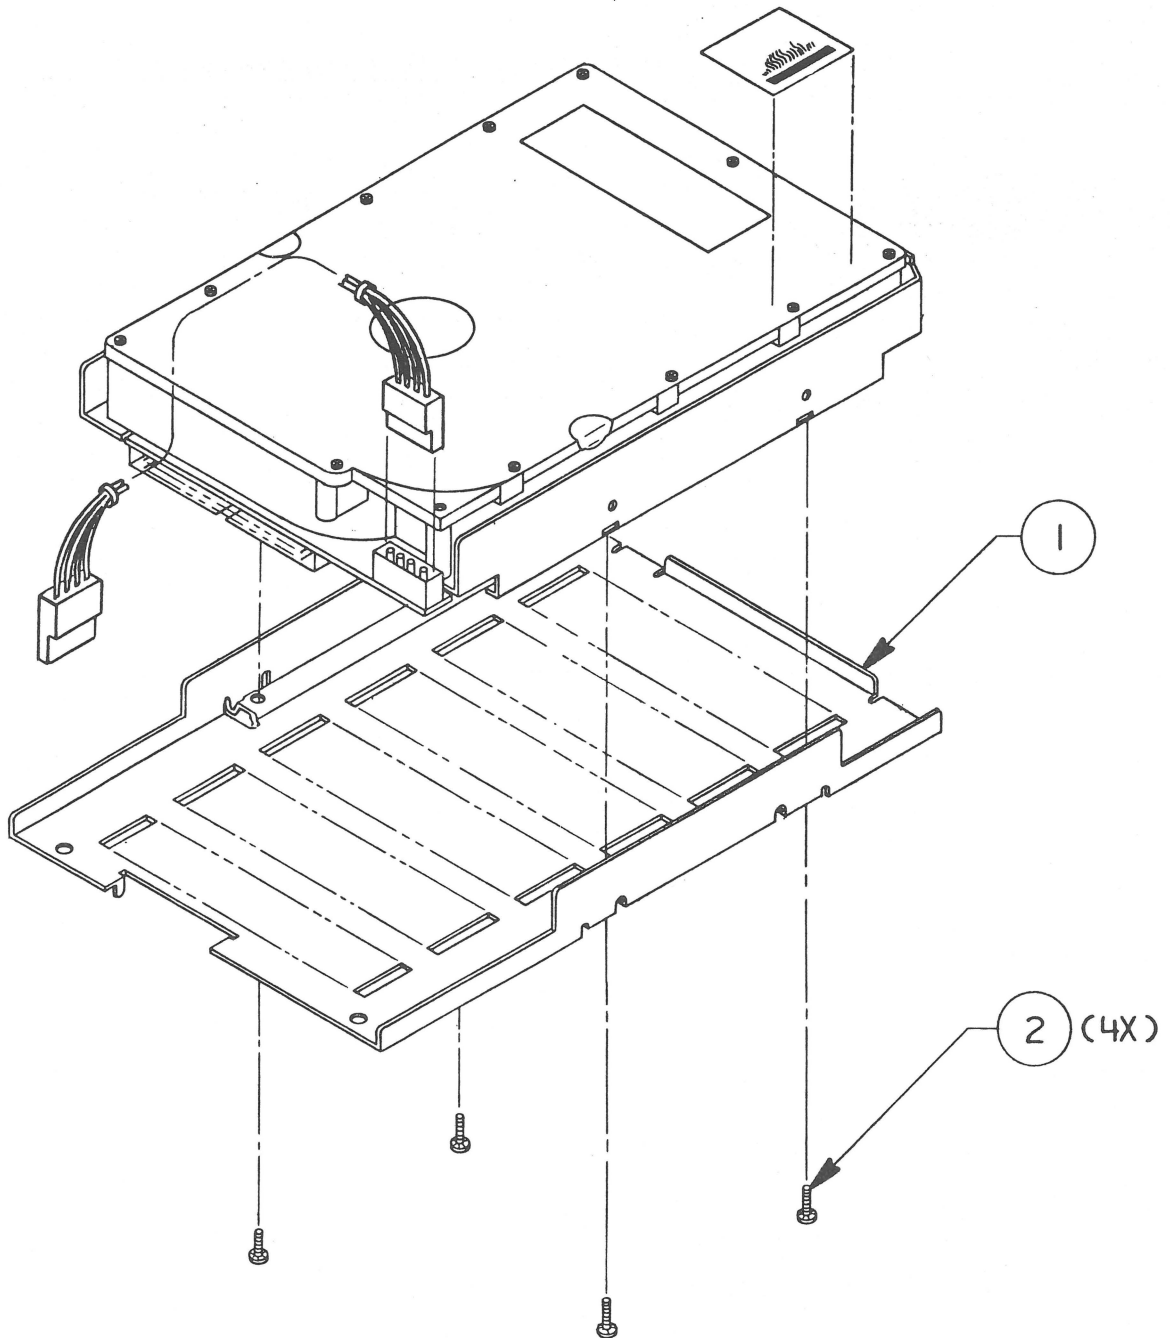

FIGURE 3
(Figure 3)
□ HARD DISK ASSEMBLY (HDA)—40SC/80SC (Figure 3)